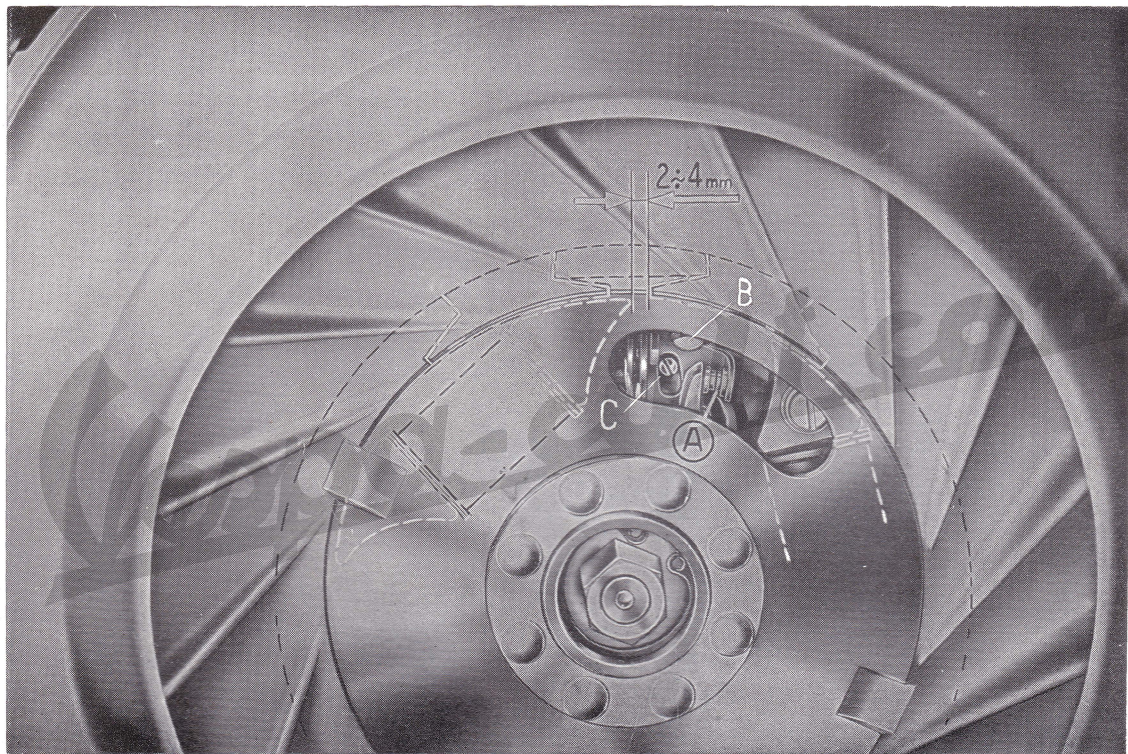

Fig. 15 - Operations for checking the «magnetic» timing of the flywheel.
- 3) - Clean, and if necessary, reset the contact breaker points (fig. 15). To avoid faulty ignition or other defects **consult your Service - Station for this operation.**